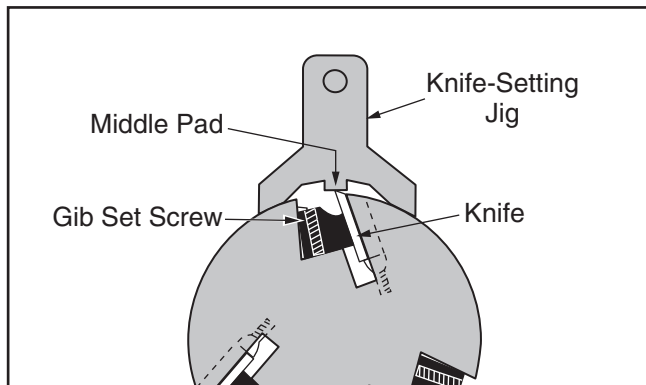

Figure 57. Knife-setting jig correctly positioned.
4. Loosen gib set screws until knife is completely loose, then position knife-setting jig over knife so that knife edge is directly under center pad, as shown in **Figure 57**.